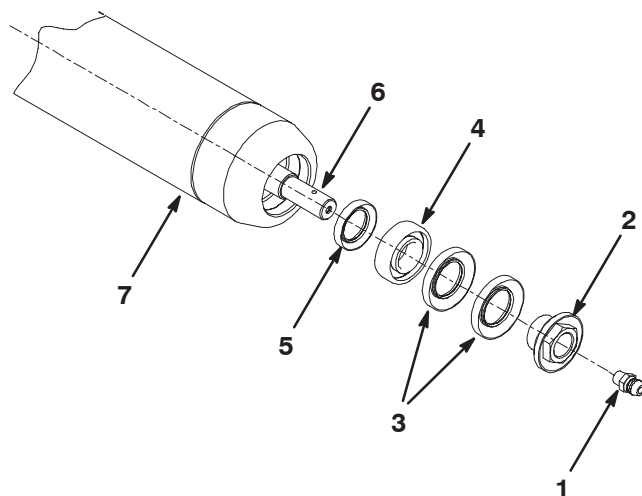

Figure 1
2. On Reelmaster cutting units, remove the grease fitting from each end of the roller shaft (Fig. 1). (This is not required on Groundsmaster cutting unit rollers)
3. Remove the bearing nuts, seals, roller shaft and bearings from the roller tube (Fig. 1).